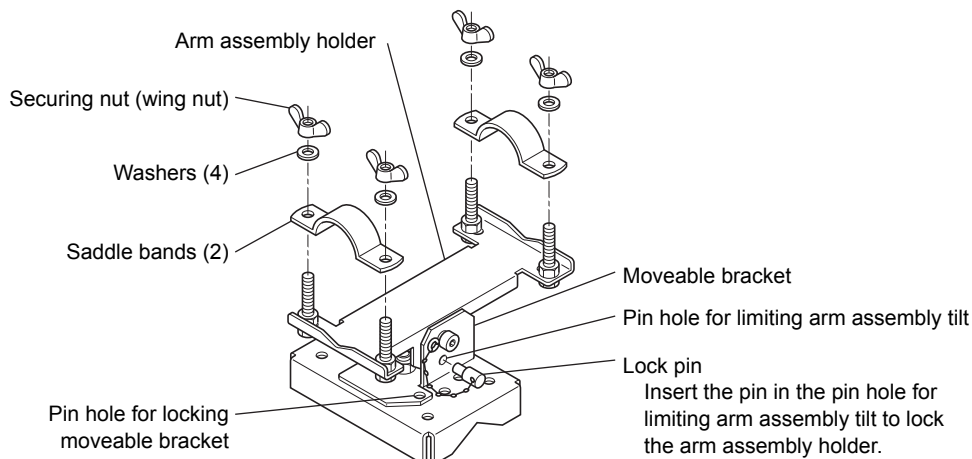

Figure 4.7 Locking Arm Assembly Holder
When the holder is installed, insert the lock pin in the pin hole for limiting arm assembly tilt to lock it (see Figure 4.7). If holder installation is attempted without locking the arm assembly, the arm assembly could unexpectedly move resulting in personal injury or damage to the sensor.
- (1) Place the mounting bracket arm assembly holder horizontally and insert the lock pin in the pin hole for limiting arm assembly tilt (see Figure 4.7).
First, remove the lock pin in the pin hole for locking the moveable bracket and insert it in the pin hole for limiting arm assembly tilt (see Figure 4.7).